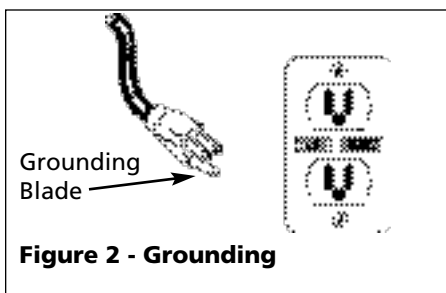

Figure 2 - Grounding
11. This equipment is only for use on 120 volt (single-phase) and is equipped with an approved 3-conductor cord and 3-prong, grounding-type plug as shown in Figure 2.
To reduce the risk of electric shock, the motor must be securely and adequately grounded. This can be accomplished by inserting plug directly into a properly installed and grounded 3-prong, grounding-type receptacle (as shown in Figure 2).